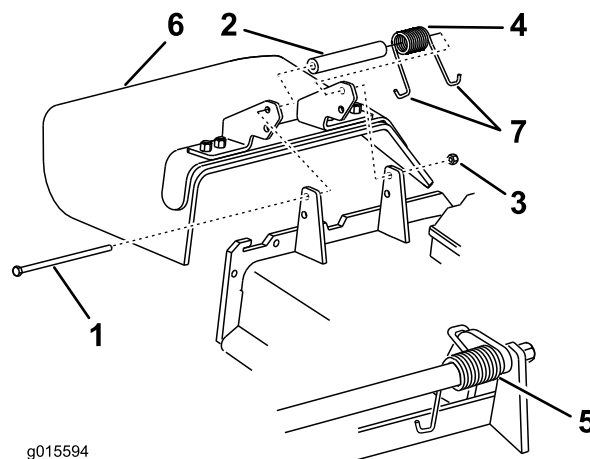

Figure 102
1. Remove the locknut, the bolt, the spring, and the spacer holding the deflector to the pivot brackets (Figure 102).
2. Remove the damaged or worn grass deflector (Figure 102).
- Note:** Make sure one J-end of the spring is installed behind the deck edge before installing the bolt as shown in Figure 102.
6. Place one J hook end of the spring around the grass deflector (Figure 102).